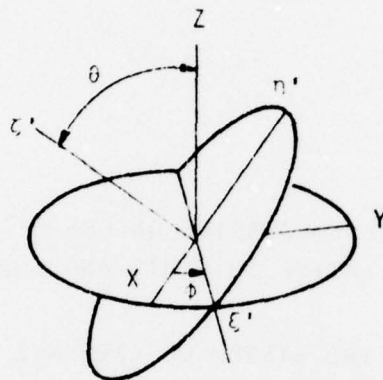

FIGURE 2. SECOND ROTATION
- (B) NEXT, THE INTERMEDIATE AXES ARE ROTATED COUNTERCLOCKWISE ABOUT THE  $\xi$  AXIS BY AN ANGLE  $\theta$  (FIGURE 2). THIS NEW SET OF AXES IS LABELLED  $\xi'\eta'\zeta'$ .